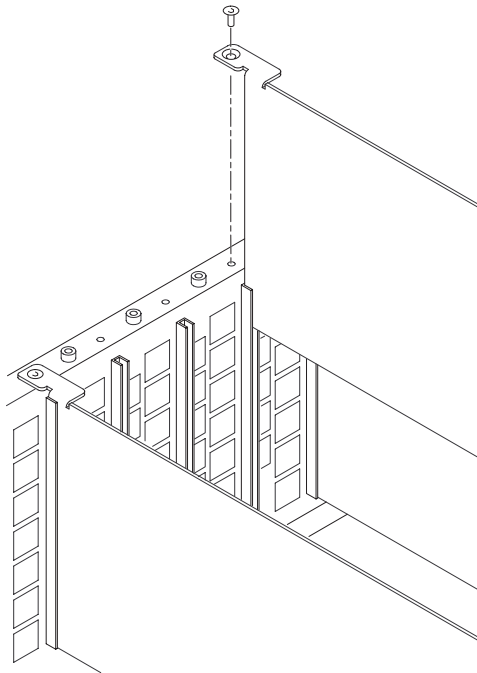

Figure C-6: Top screw
8. Insert and tighten the top screw, which is supplied with your module, as shown in Figure C-6.
5. Refer to Figure C-6 on page C-8 and remove the top screw.